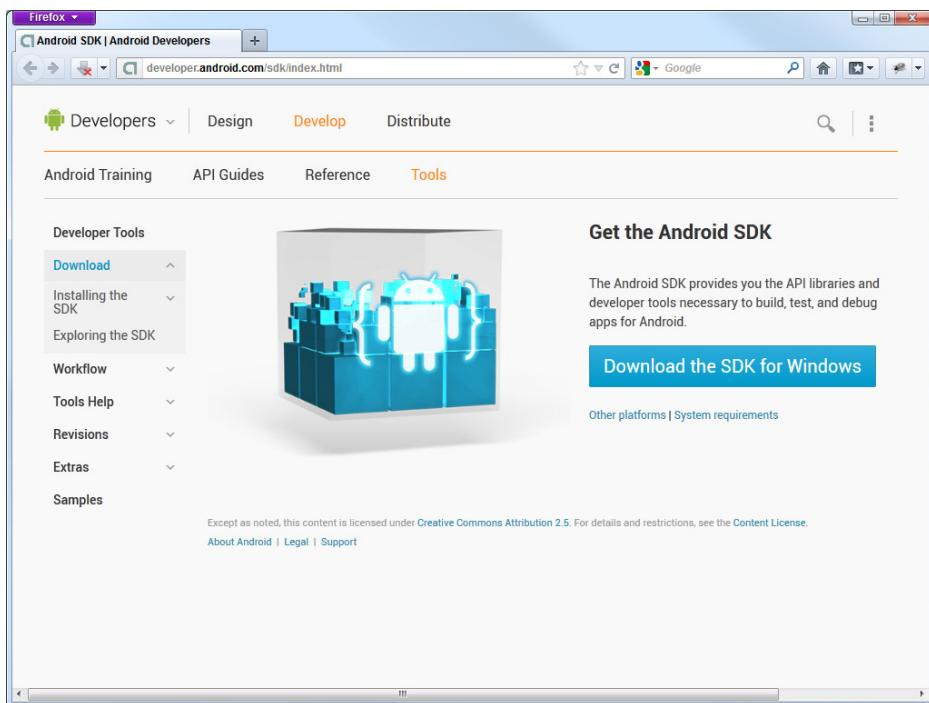

FIGURE 4-1: Download the SDK Manager.
1. Point your web browser to <http://developer.android.com/sdk/> and download the version of the tools that matches your computer. Figure 4-1 shows the webpage where you download the SDK Manager; it will always try to select to correct installer for your system.